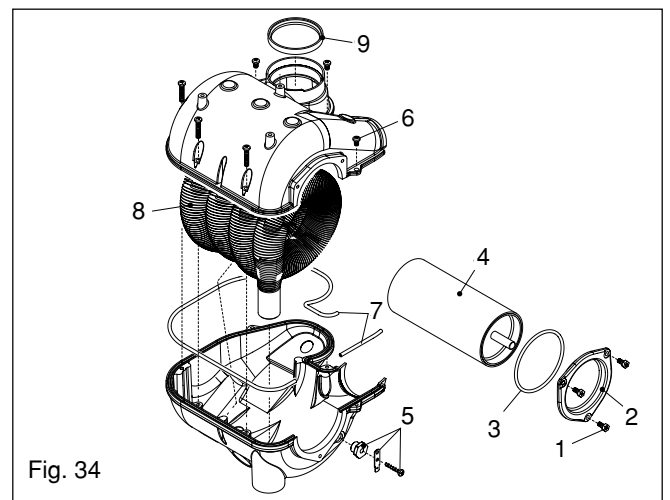

Fig. 34
6.21A DISMANTLING THE LATENT HEAT COLLECTOR (see fig. 34)